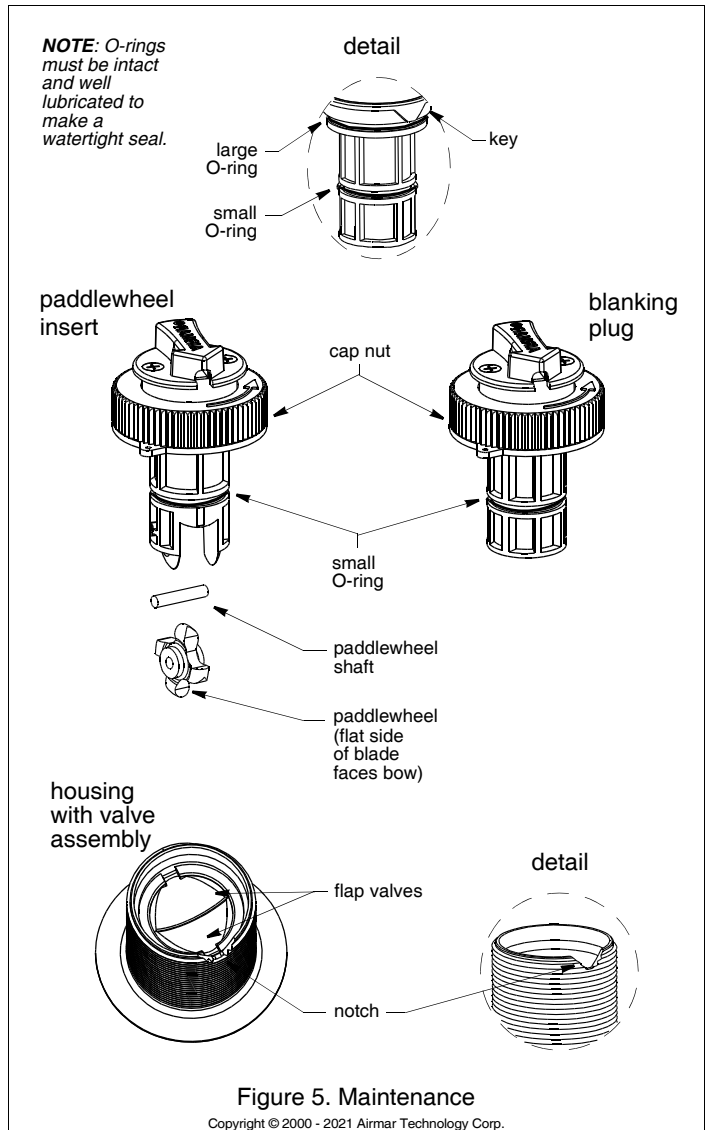

Figure 5. Maintenance
3. To remove the paddlewheel insert from the housing, unscrew the cap nut (Figure 5). This will jack the insert out of the housing. *Do not unscrew the screws.* Replace the paddlewheel insert with the blanking plug. Seat it into place with a pushing twisting motion until the key fits into the notch in the housing. Screw the cap nut in place and **hand tighten** only. Do not over tighten.
1. Using the new paddlewheel shaft, push the old shaft out about 6mm (1/4"). With pliers, remove the old shaft (Figure 5).